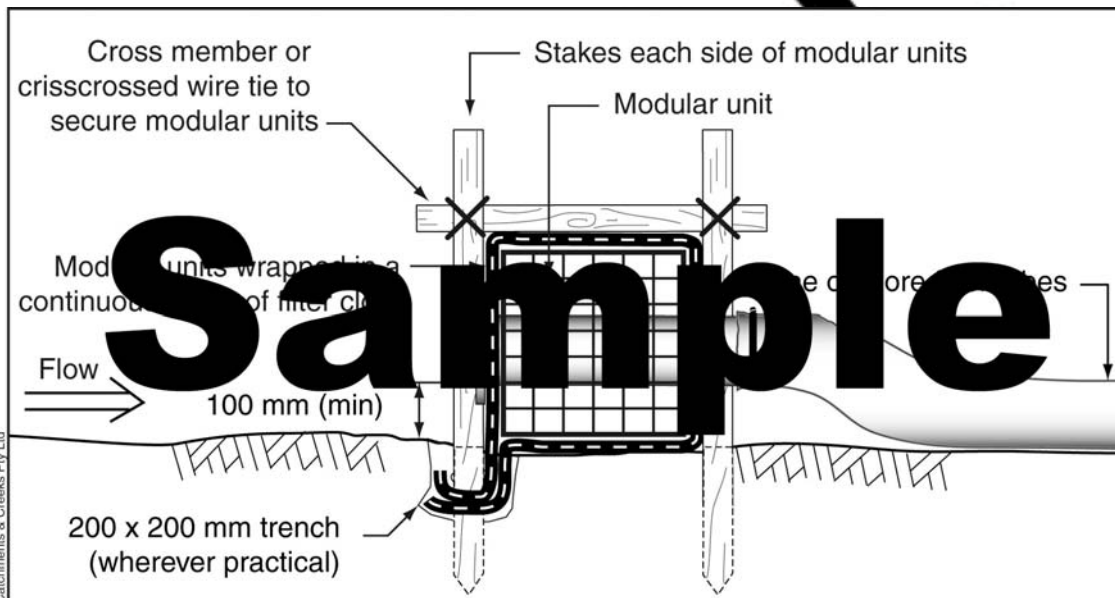

Figure 4 – Typical arrangement of filter tubes incorporated into a modular sediment trap
5. Sediment 'filtration' and gravity-induced 'sedimentation' can be improved by filling the modular units with compost or special pollutant-adsorbing filter bags (e.g. 'WaterClean FilterBale'), or attach one or more filter tubes to the weir (Figure 4).
Incorporating filter tubes into modular sediment traps (Figure 4) requires modification of some of the modular units to house the connection pipes; however, once modified, these units can be reused on similar installations.